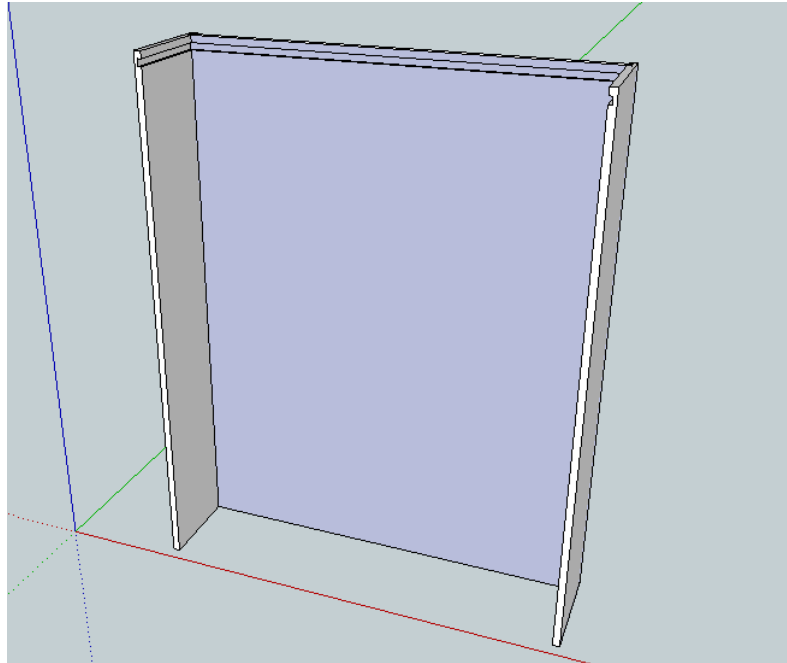

Figure 23: Top Cabinet Sides and Back
7. The top cabinet is assembled in an identical manner to the bottom cabinet. The sides get wood glue in their grooves and the back gets inserted. See Figure 23.